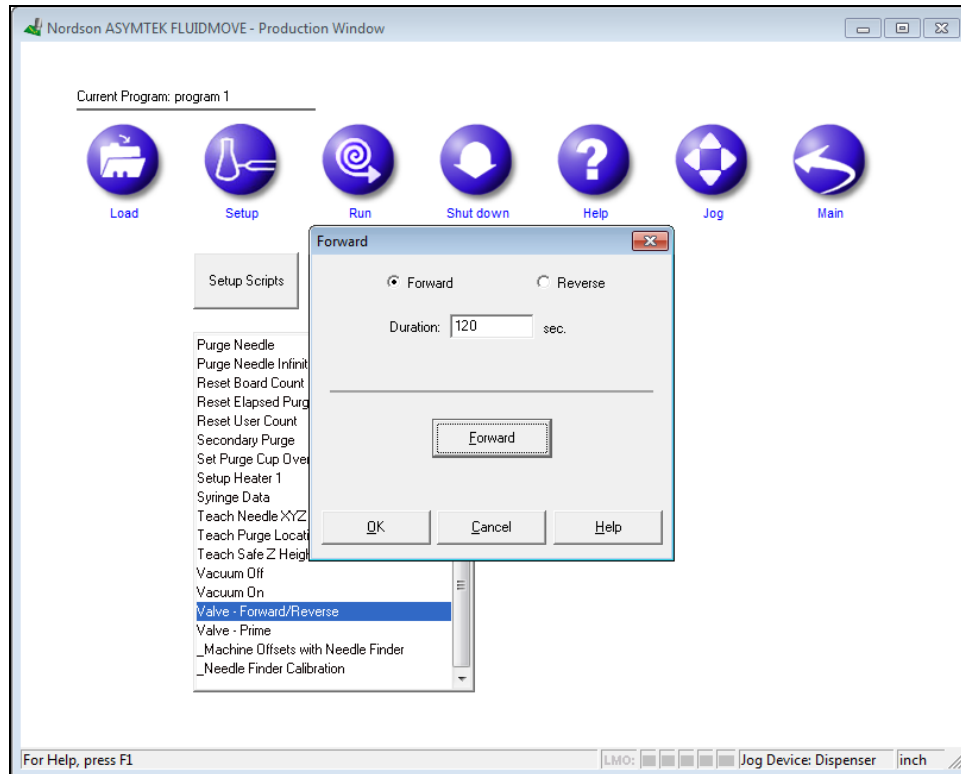

Figure 4-3 Production Window – Valve Forward
6. In the Production Window, click on **Setup** and then double click on **Valve - Forward/Reverse** (Figure 4-3).